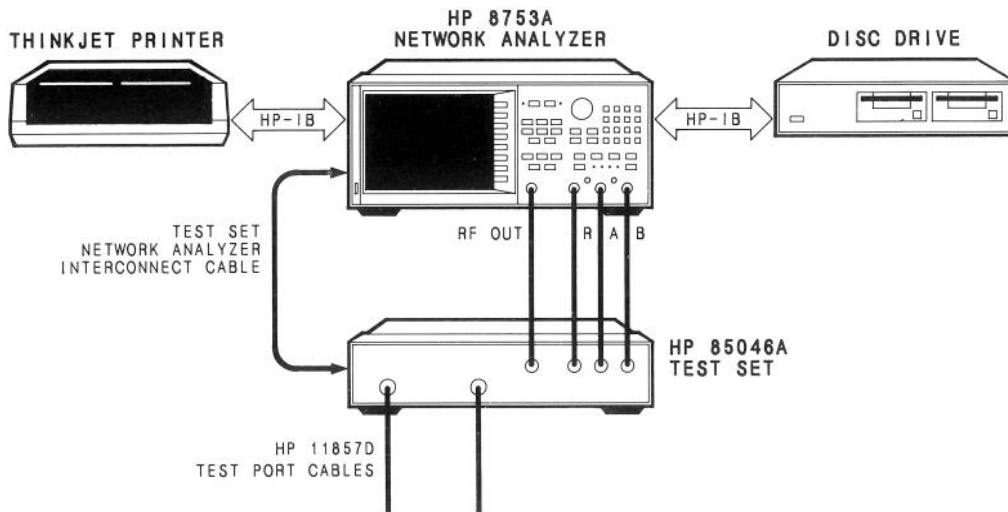

Figure 1. System Verification Setup.
1. Connect the HP 8753A system as shown in Figure 1.